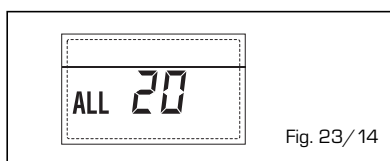

Fig. 23/14
- **ANOMALIA GUASTO SONDA MANDATA PRIMA ZONA MISCELATA "ALL 21"** (fig. 23/15)